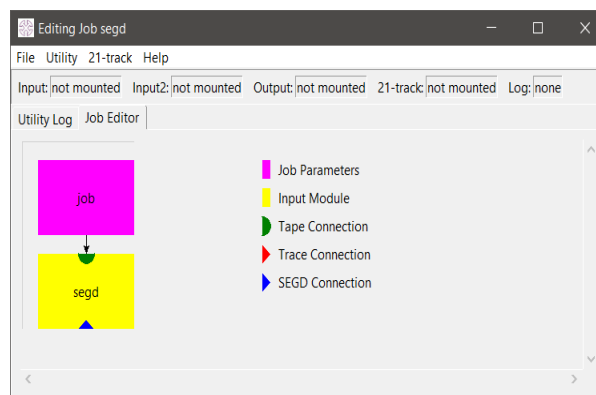

Figure 4-4 Magma module boxes display in main Magma window.
3. The main Magma job screen will display the Job Parameter and Input modules (Figure 4-4 on page 40). These can now be linked to form a workflow for manipulating or analysing the input data.